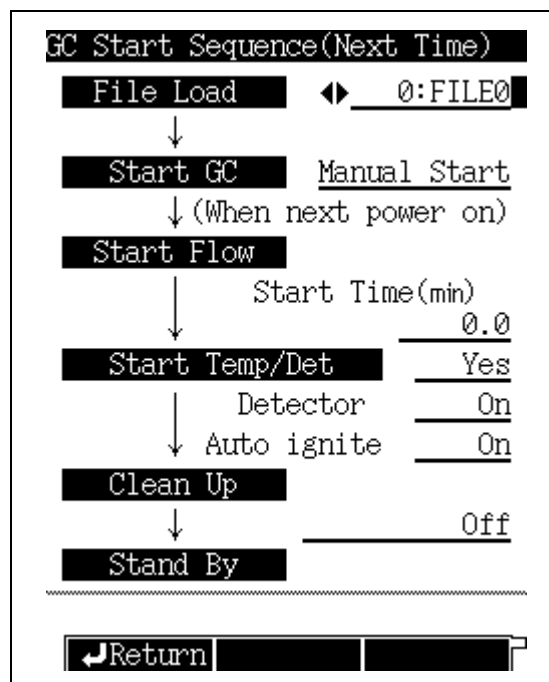

Fig. 3.6.1
- (1) Press [SYSTEM] key, toggle key, PF1 key, and change “Start GC” to “Manual Start”(refer to Fig.3.6.1 or 3.6.2).
- (1) Press[SYSTEM]key, toggle key, PF1 key, and change “Start GC” to “Manual Start” (refer to Fig.3.6.1 or 3.6.2).